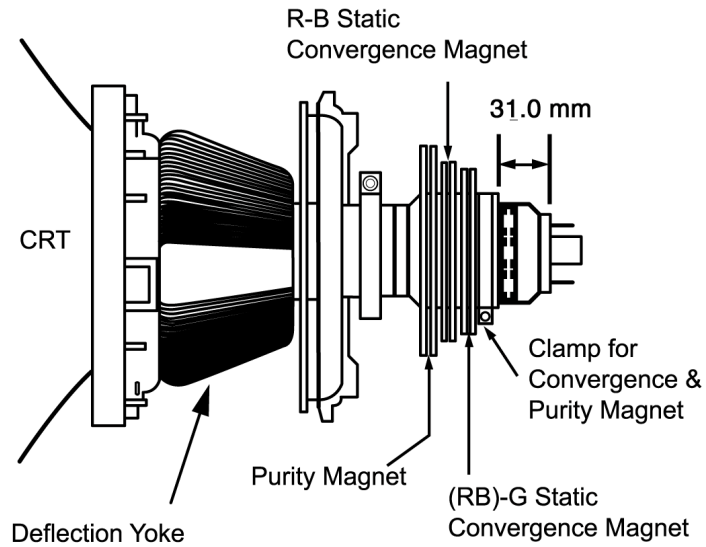

Fig. 10
7. Loosen the clamp screw for the Deflection Yoke A in Fig. 10 and move the Deflection Yoke as close to the purity magnet as possible.
11. Tighten the clamp screw A in Fig. 10.
7. Fix the Deflection Yoke by reinserting the DY wedges. Refer to Fig. 10.